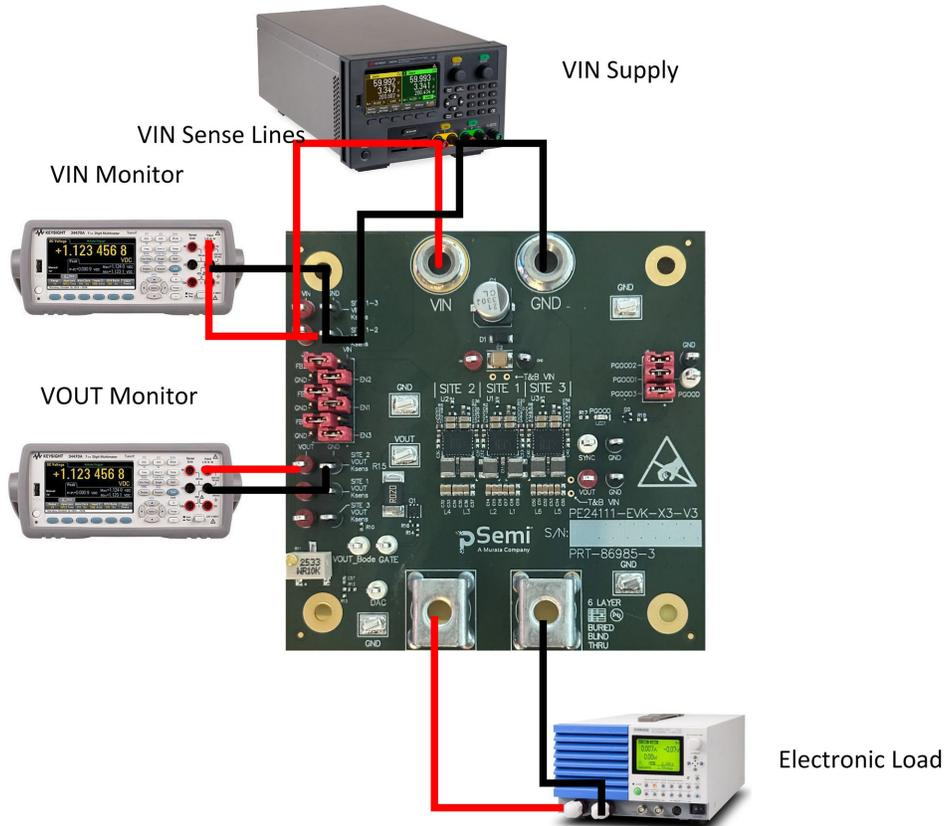

Figure 2. EVK connection example
Connect the EVK and the lab equipment as shown in Figure 2. Connect the power supply sense lines to the VIN kelvin sense test points to ensure minimal supply voltage drop and accurate voltage regulation at the device input. Due to the high currents present—especially in the x2 and x3 configurations—use 14-gauge connection wires for the supply and load.
2. Connect the power supply and sense lines, electronic load, and DMMs as shown in Figure 2.